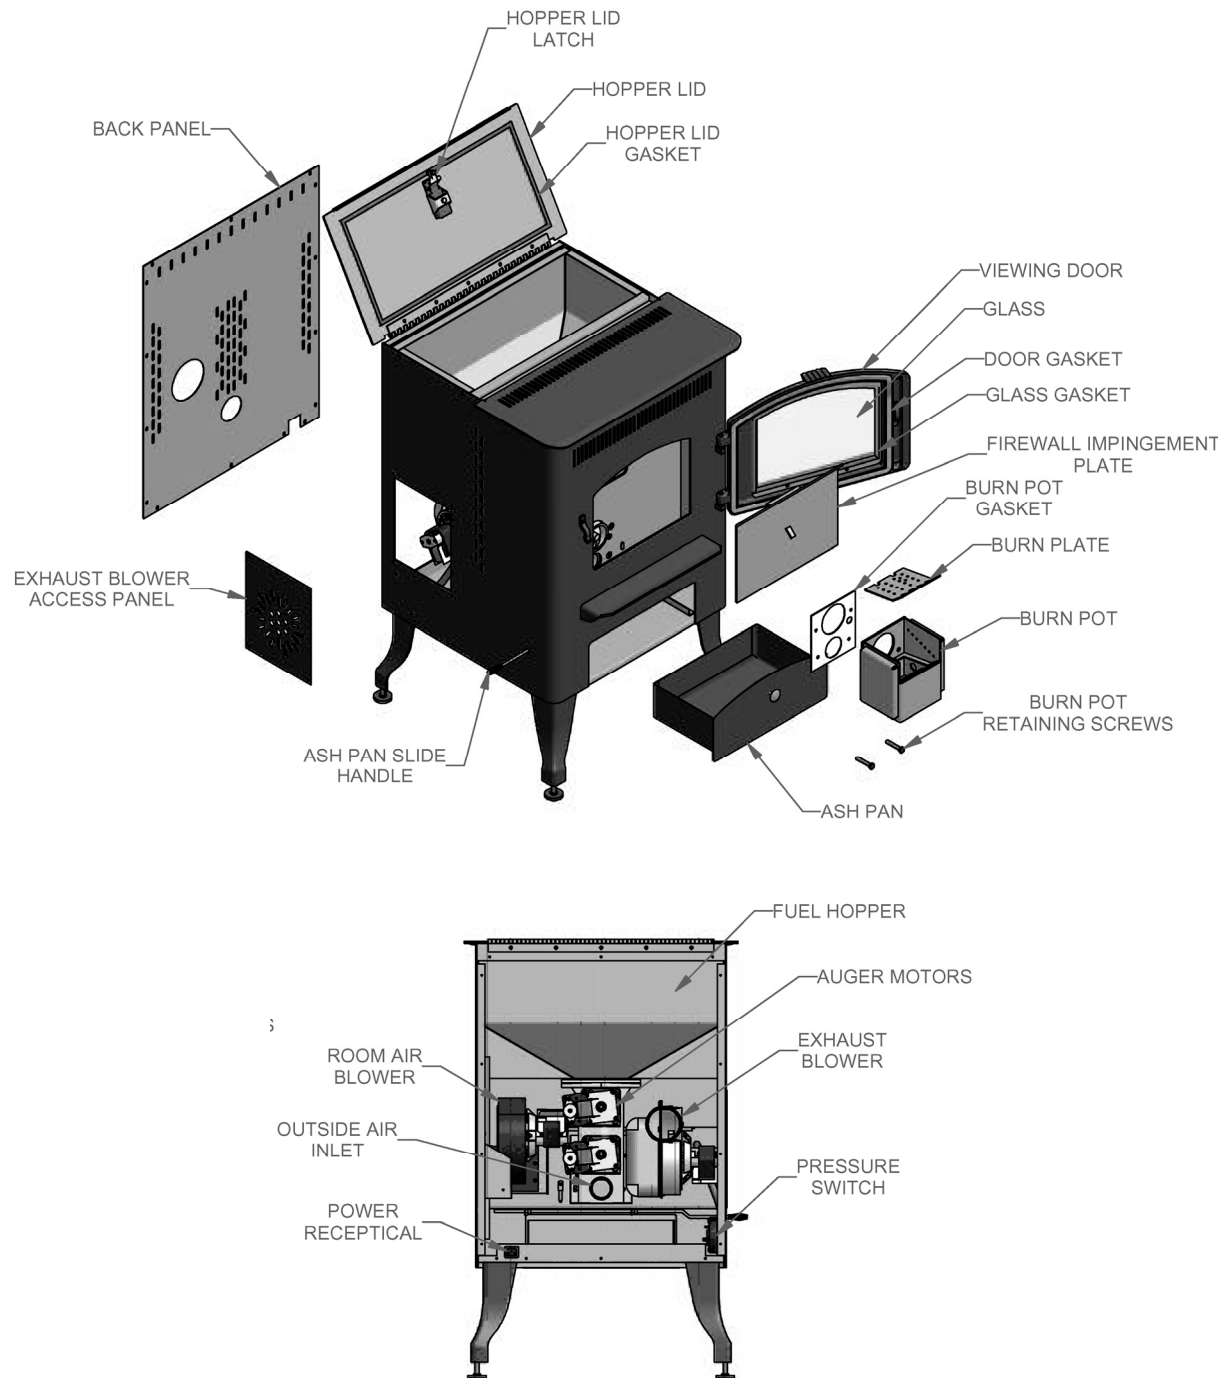

FIGURE 12
- 1) Attach the two (2) included spring handles; one (1) for the door handle and (1) ash pan slide lever by screwing them on in their respective locations.
- 3) Locate and attach the firewall impingement plate inside the stove (see FIGURE 12).